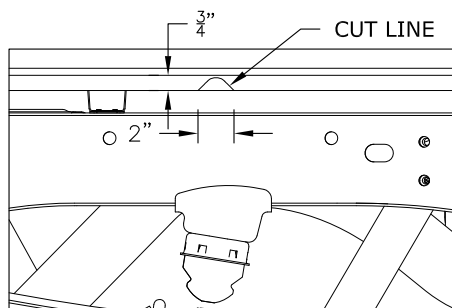

FIGURE A4: V-Shaped notch
1. **Modify bed flange.** Cut a notch in the bed flange just above the frame in the passenger side rear wheel well as shown in figure A4. This notch is required for installing the hitch cross members.